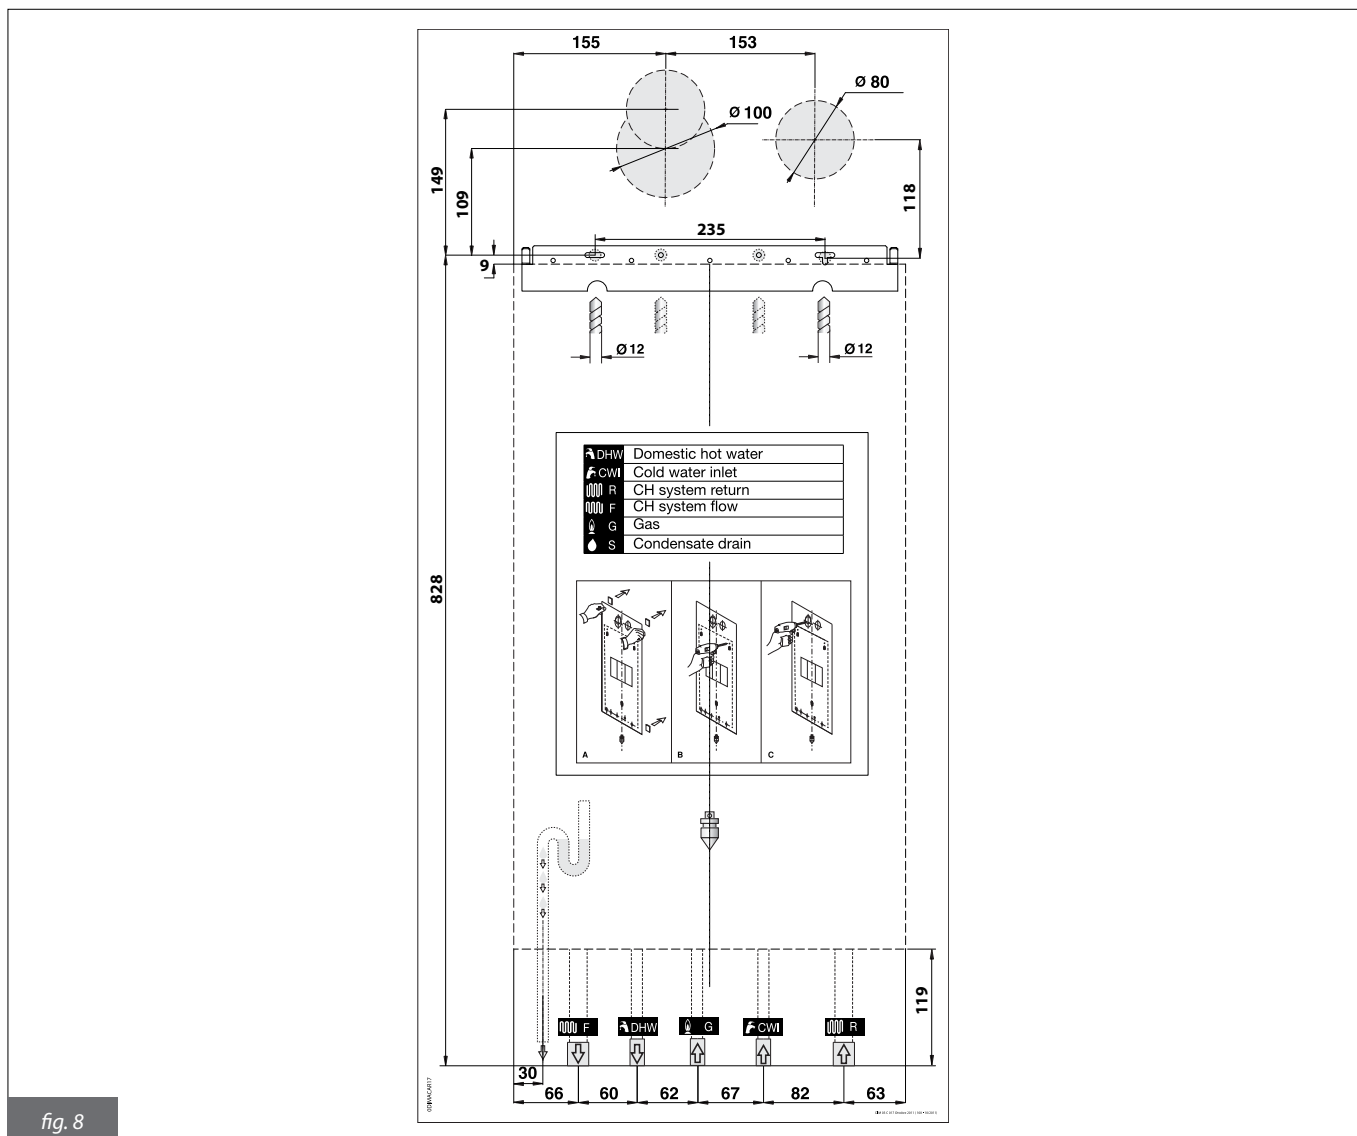

fig. 8
Each boiler is supplied with a paper template (fig. 8), within its packaging, allowing arrangement of CH pipe system, DHW pipe system, gas supply pipe system and air intake/flue gas discharge system before actually installing the boiler.
- b) boiler wall mounting template (fig. 8);
- Fix the template (fig. 8) onto the wall.
- Position the gas supply fitting (G), the mains water fitting (CWI), the DHW flow fitting (DHW), the CH flow fitting (F) and the CH return fitting (R) as shown on the template (refer to the lower part).